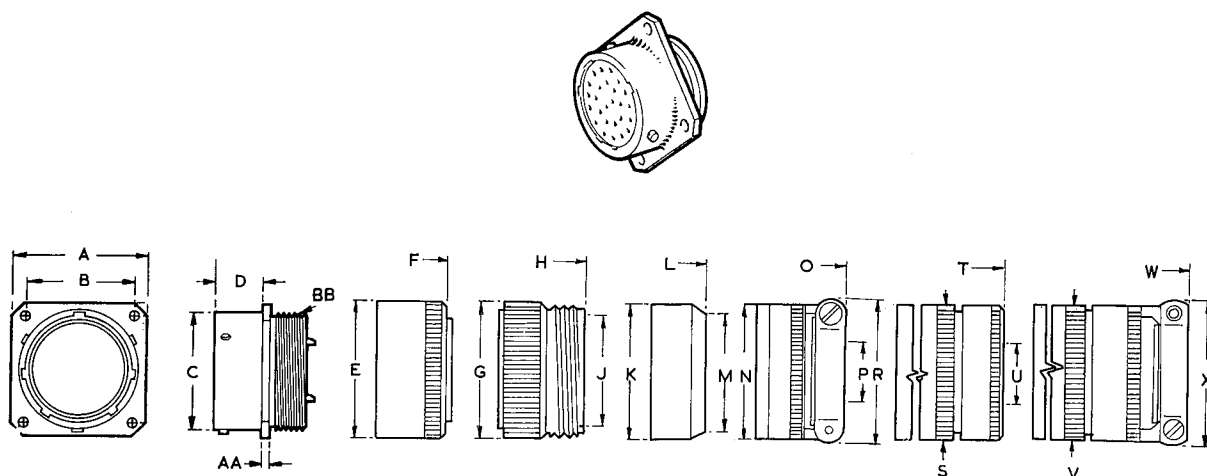

Fig. 5. Wall mounting receptacle, Type BT00 (MS3110)
(fig. 5 to 13)
12. The following shell styles are available within the solder Bantam range. Leading dimensions and panel cut-out details are as shown in Table 4 to 12. Fig. 5 to 13 indicates the dimension code letters used in the tables.
(1) *BT00 Square Flange Receptacle* (fig. 5). The BT00 square flange wall mounting receptacle conforms to MS3110 specification and mates with the BT06 straight plug.
Wall mounting receptacles, Type BT00 (MS3110) (fig. 5)
NOTE:—ACCESSORIES ARE AS FOR FIG.5